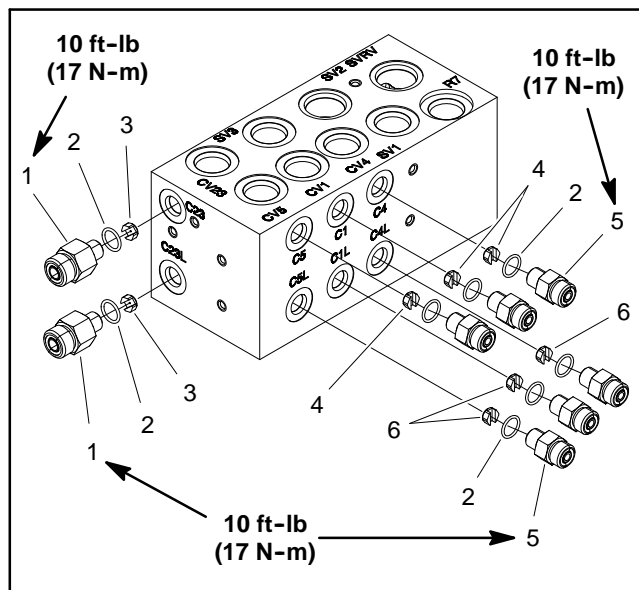

Figure 76
8. Remove two (2) flange head screws that secure manifold to machine frame.
IMPORTANT: A flow control orifice is placed beneath several hydraulic fittings on the lift control manifold (Fig. 76). The lift manifold uses three (3) different orifice sizes. If fittings are removed from manifold and an orifice is in the manifold port, make sure to remove orifice and label its position for assembly purposes.
IMPORTANT: When installing orifice in manifold (Fig. 76), make sure that orifice is flat in the base of the fitting cavity. Manifold damage is possible if the orifice is cocked in the cavity.